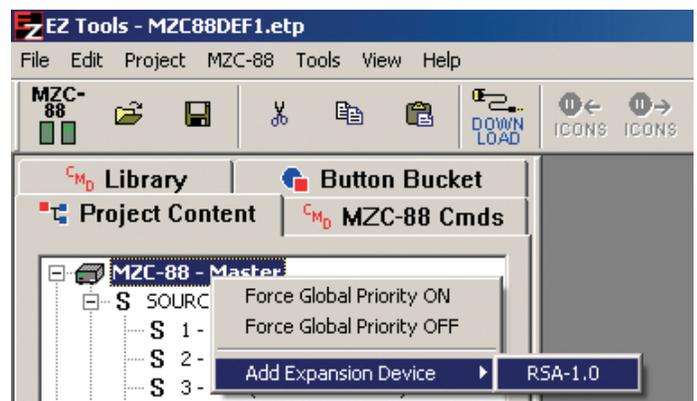

Figure 3
4. Left Click RSA-1.0 in the second pop-up window. (**Refer to Figure 3**) The Expansion Device Setup Window will appear. **NOTE:** An RSA-1.0 can also be added by right clicking the Expansion Devices icon at the bottom of the Project Content Window. Right click Expansion Devices, roll the mouse over the pop-up and left click RSA-1.0.